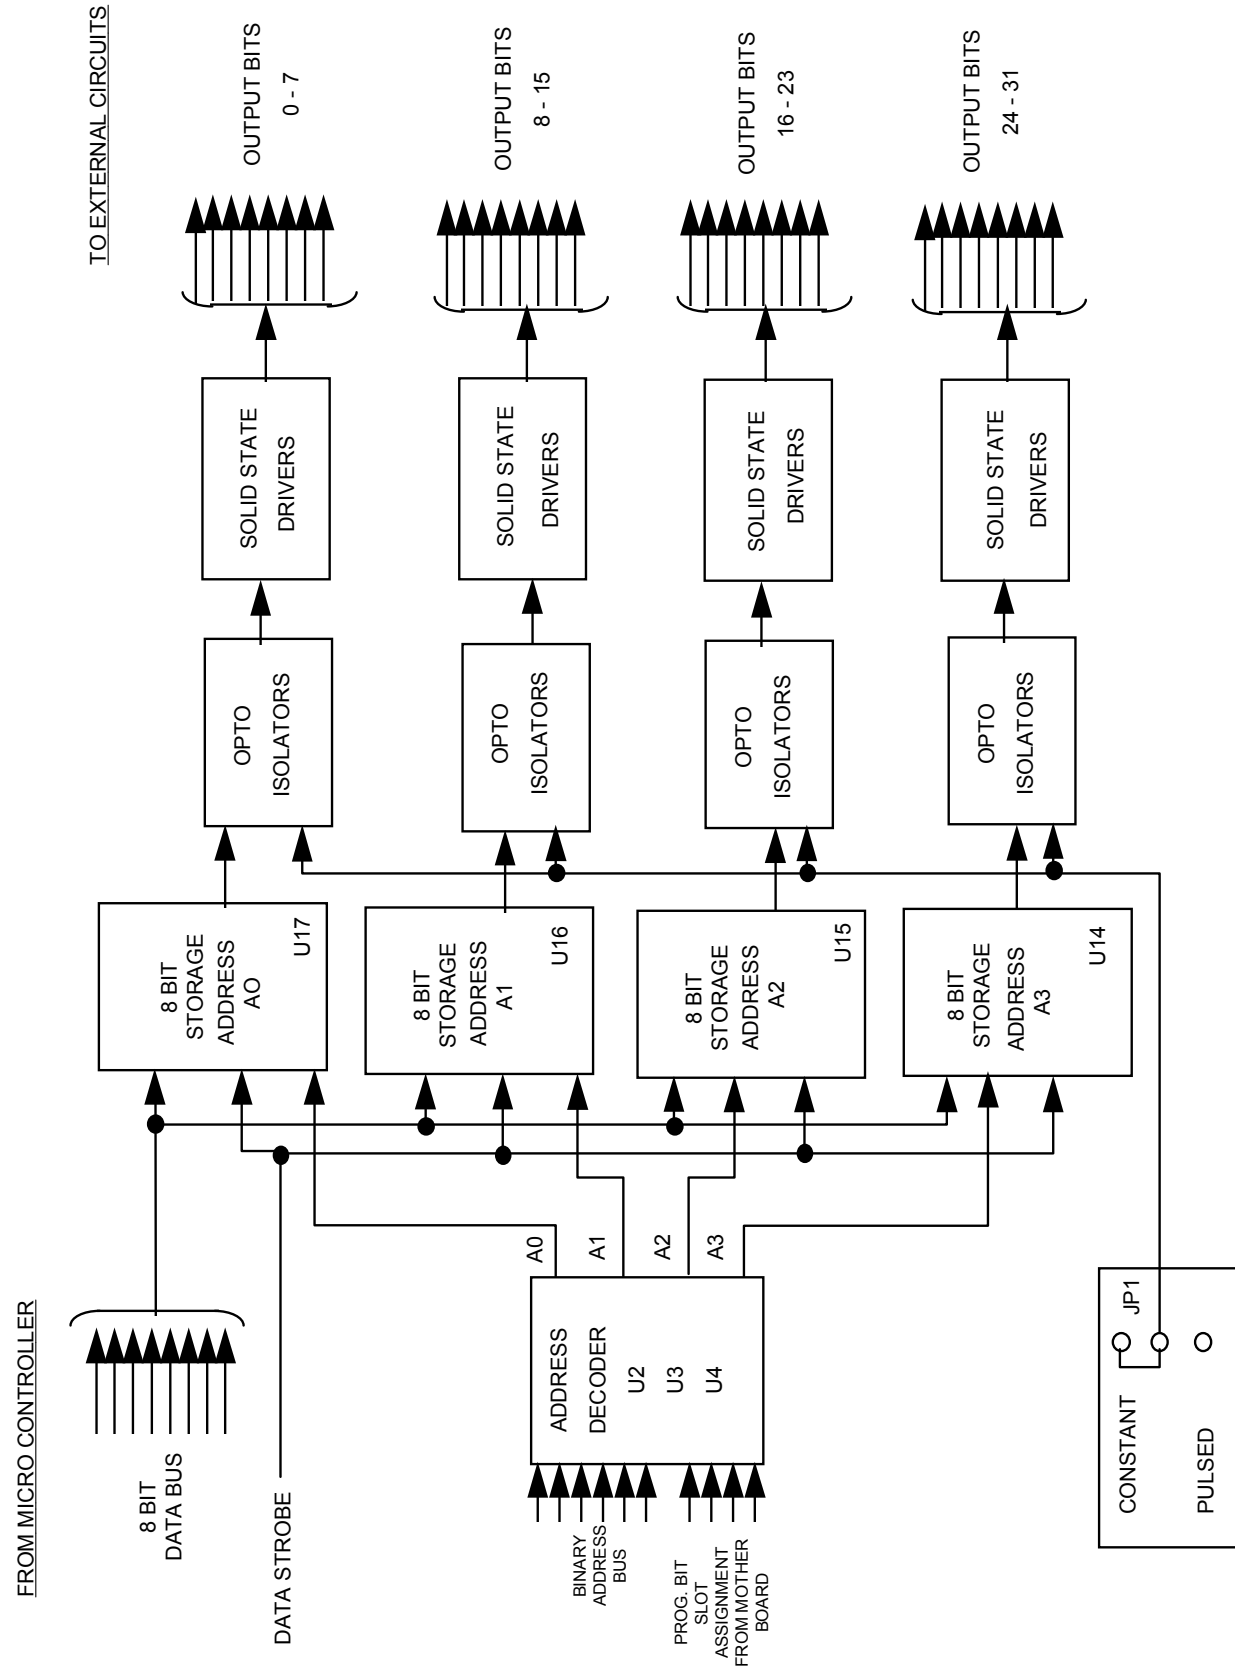

Figure 3-2. 32-Bit Output PCBs - Basic Block Diagram
3.1.2.2 32-Bit Output Boards N451441-9601, -9801 (Ref. Figure 3-2)